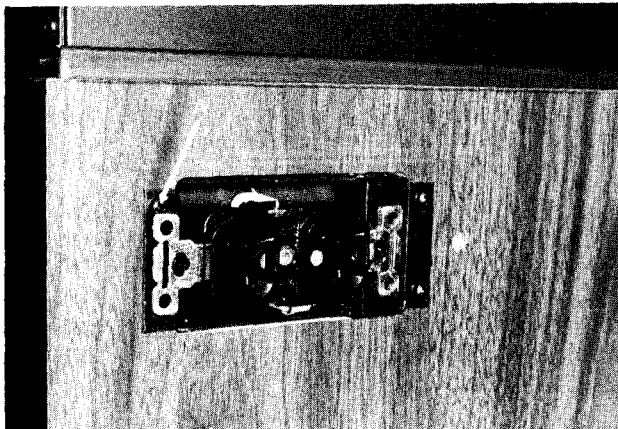

Fig. 9
- 8) Remove receptacle housing by removing (4) screws, Item A, Fig. 9.
- 11) Insert receptacle housing into panel cutout, align holes, and install (4) #6 x 1/2" screws, Item A, Fig. 9.